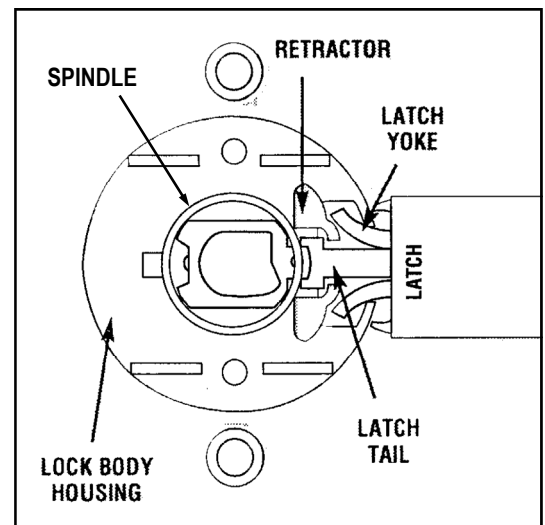

FIG. 10: VIEW FROM SECONDARY SIDE OF DOOR
2. Insert Primary side (with the Lock Body Housing) into door and be sure to properly engage the Lock Body Housing with the Latch as shown in Fig. 10.
- Lock is not properly engaged with latch or misaligned. Lock is not centered on the door (See Fig. 10).